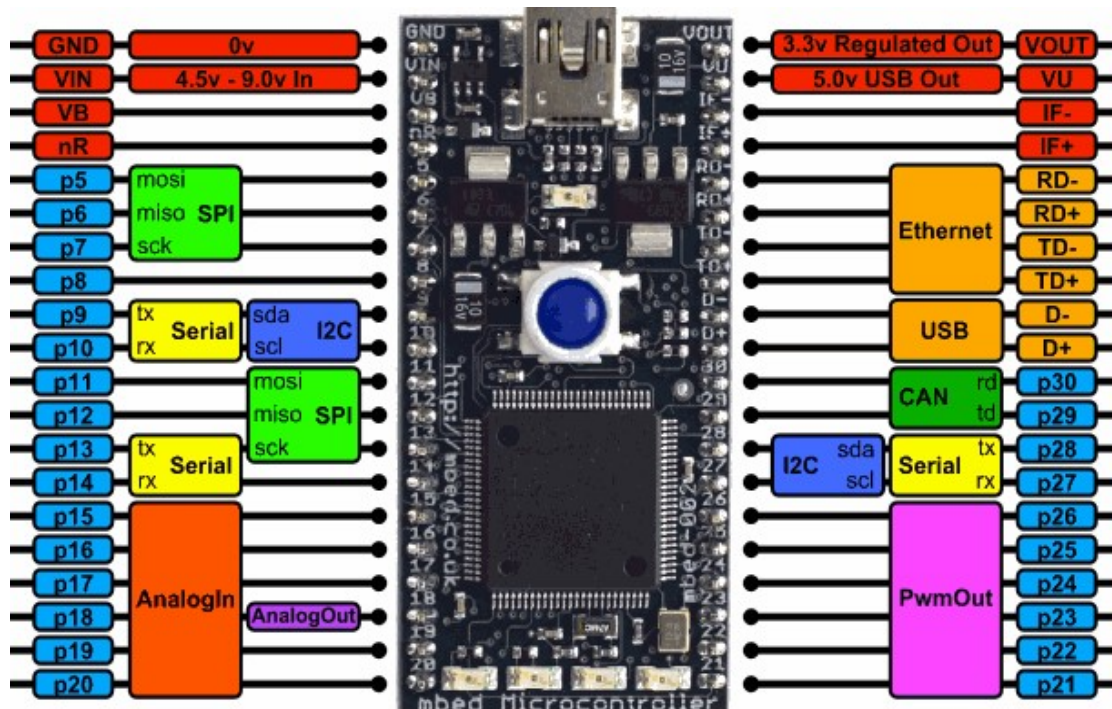

Figure 12.1 Pinout Diagram of mbed LPC1768 Board
**Introduction:** The mbed Microcontrollers are a series of ARM microcontroller development boards designed for rapid prototyping. The mbed NXP LPC1768 Microcontroller is designed for prototyping all sorts of devices, especially those including Ethernet, USB, and the flexibility of lots of peripheral interfaces and FLASH memory. It is packaged as a small DIP form-factor for prototyping with through-hole PCBs, stripboard, and breadboard. It includes a built-in USB FLASH programmer. The pinout diagram in Figure 12.1 shows the commonly used interfaces and their locations. Note that all the numbered pins (p5-p30) can also be used as DigitalIn and DigitalOut interfaces.